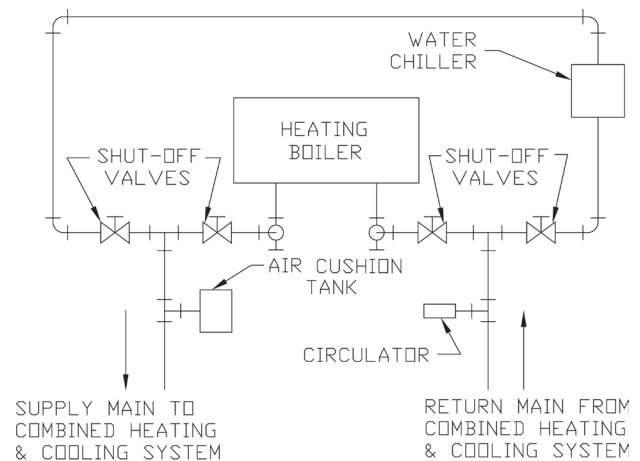

Figure 23: Recommended Piping for Combination Heating & Cooling (Refrigeration) System
- G. If boiler is used in connection with refrigeration systems,** boiler must be installed with chilled medium piped in parallel with the heating boiler using appropriate valves to prevent chilled medium from entering boiler, see Figure 23.